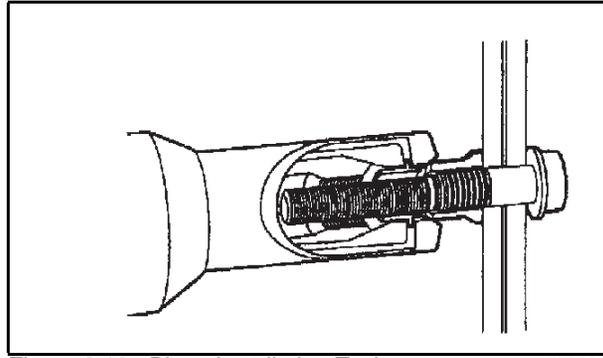

Figure 2.10 Place Installation Tool Over Fastener Pintail 01\_0020
- Place the Huck installation tool over the HP 8 fastener pintail (See Figure 2.10)